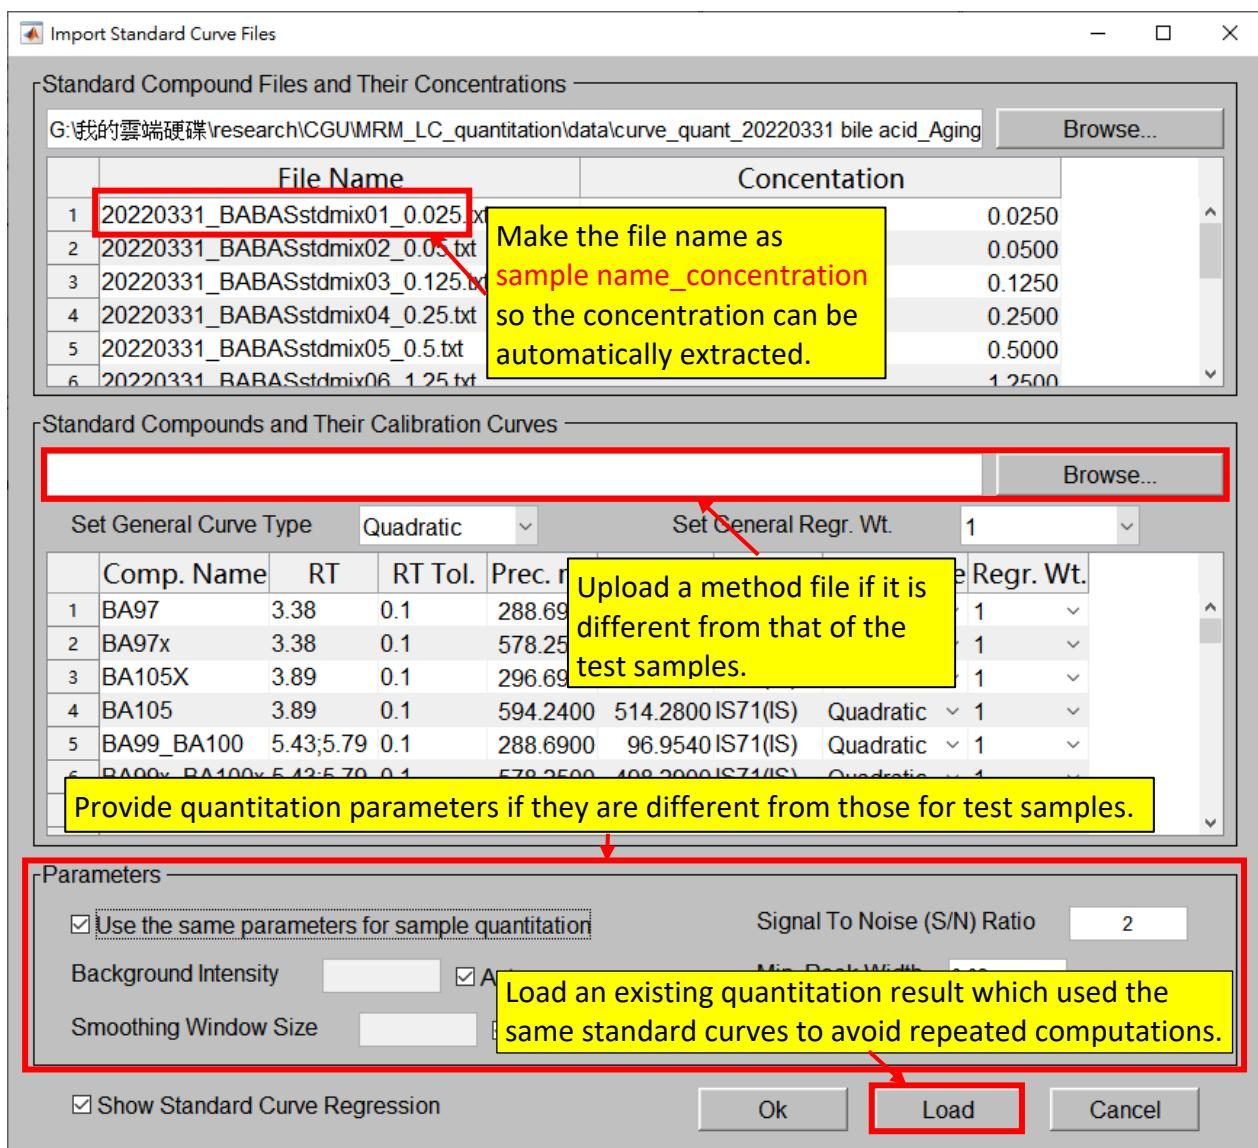
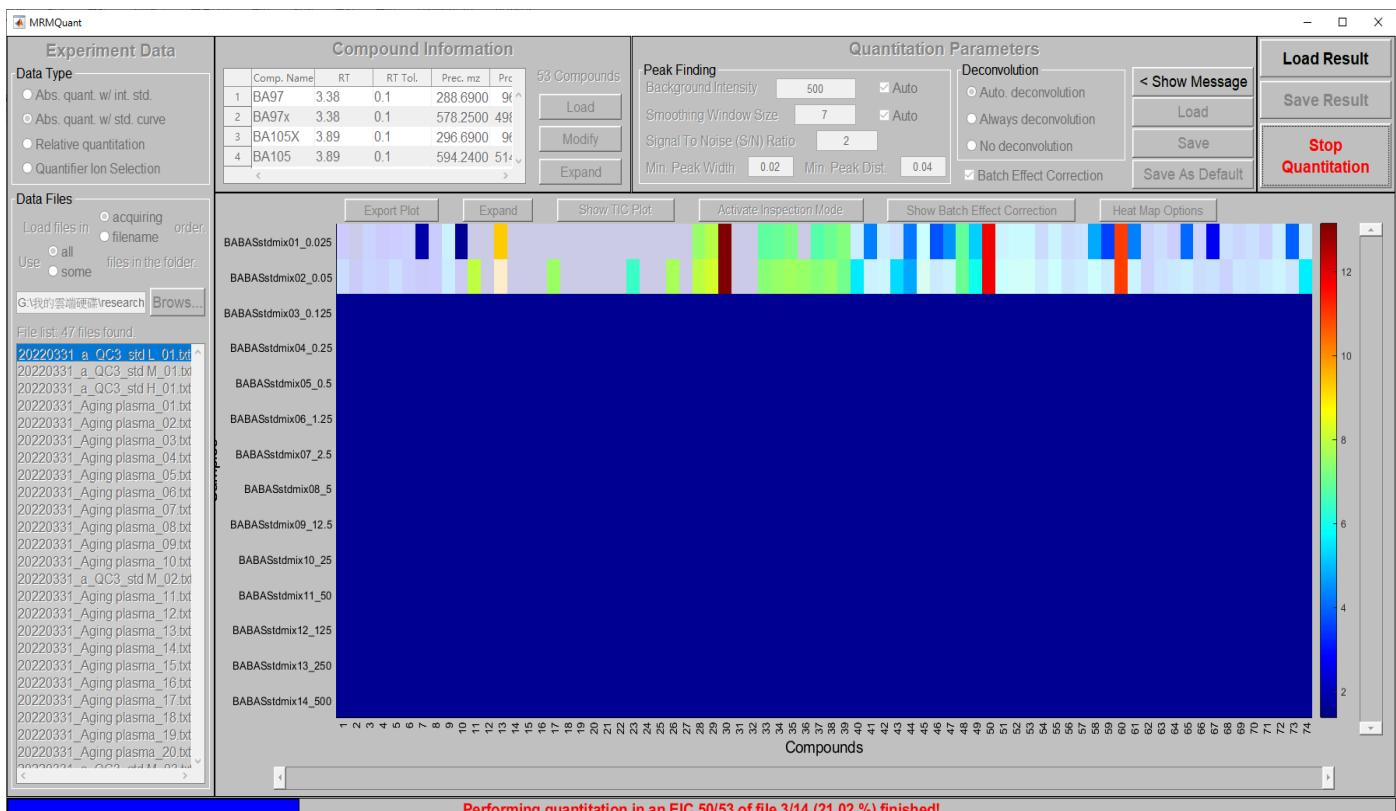
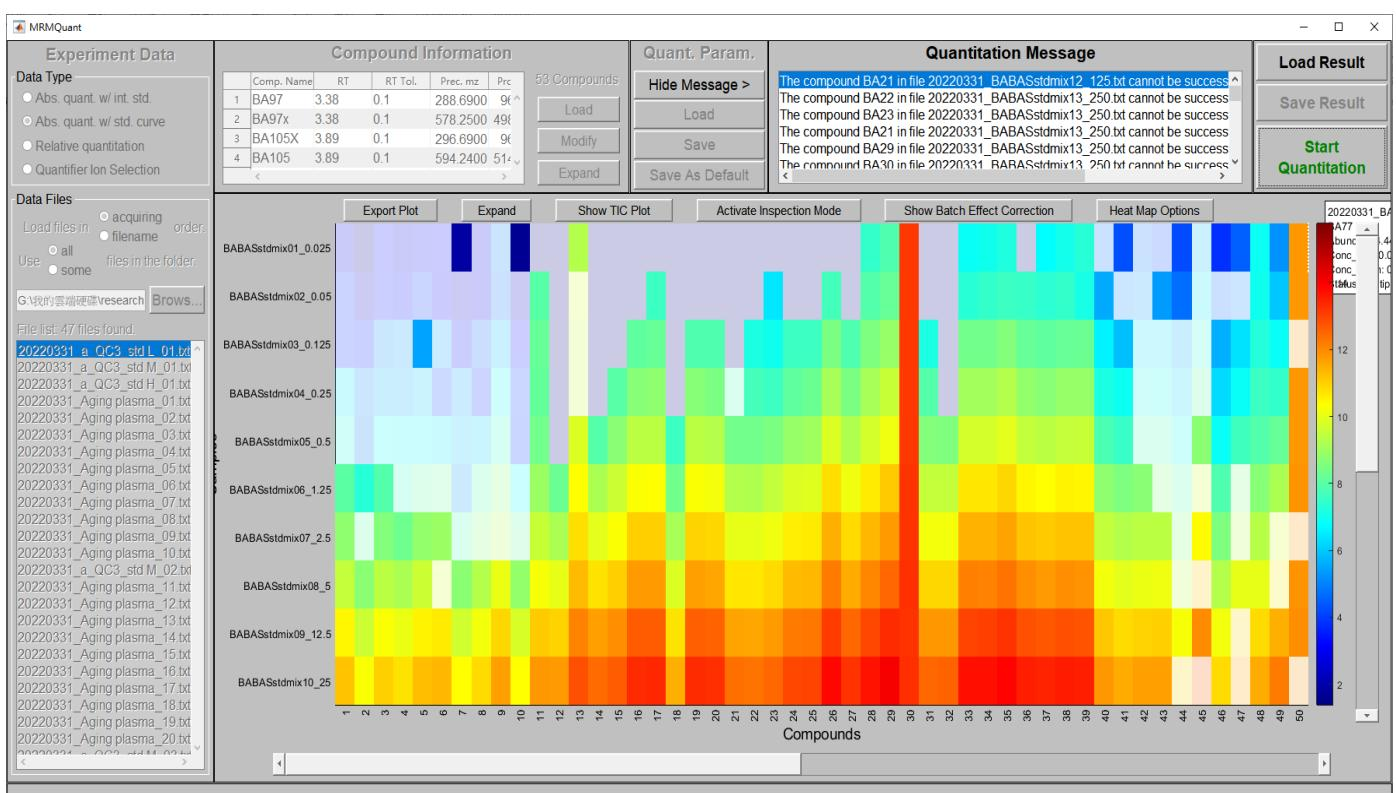

Figure 41. The “Import Standard Curve Files” window for standard curve generation.
Figure 43. The quantitation is performed on the samples for standard curve generation.
Figure 44. The quantitation result in heat map form of the data for standard curve generation.
If the user selected “Abs. Quant. w/ STD. Curve” at the Data Type, after the user clicks on the “Start Quantitation” button, the “Import Standard Curve Files” window will appear for the user to input relative information for the standard curve, as shown in Figure 41. If any quantitation result which used the same standard curves exists, the user can import the standard curve information by pressing the “load” button at the end of the window to avoid repeated computations. Otherwise, the user needs to provide (1) the sample files for the standard curve generation, (2) the method file for the targeted compounds in the sample files, and (3) the quantitation parameters in this window. Except for the first item, the latter two information can use the same ones as those for the testing sample files in steps 4 and 5. The files are suggested to be named as sample name_concentration so that MRMQuant can automatically extract the concentrations from the file names, as shown in Figure 41. Users can change curve types (quadratic or linear) and regression weights ($1, 1/x, 1/x^2$) for all compounds using the dropdown menus at the top of the “Standard Compounds and their Calibration Curve” section. These entities can also be change for individual compound using the dropdown menus at the end of each row, as shown in Figure 42. Once all the information for the standard curve generation is provided, the user can press the “Ok” button and the quantitation process of the samples for the standard curve generation will be commenced, as shown in Figure 43. The quantitation result in heat map form is shown in Figure 44. Note that the cells with the 20% transparent grey mask indicate those results that require further inspection and those with white color denote saturated peaks.